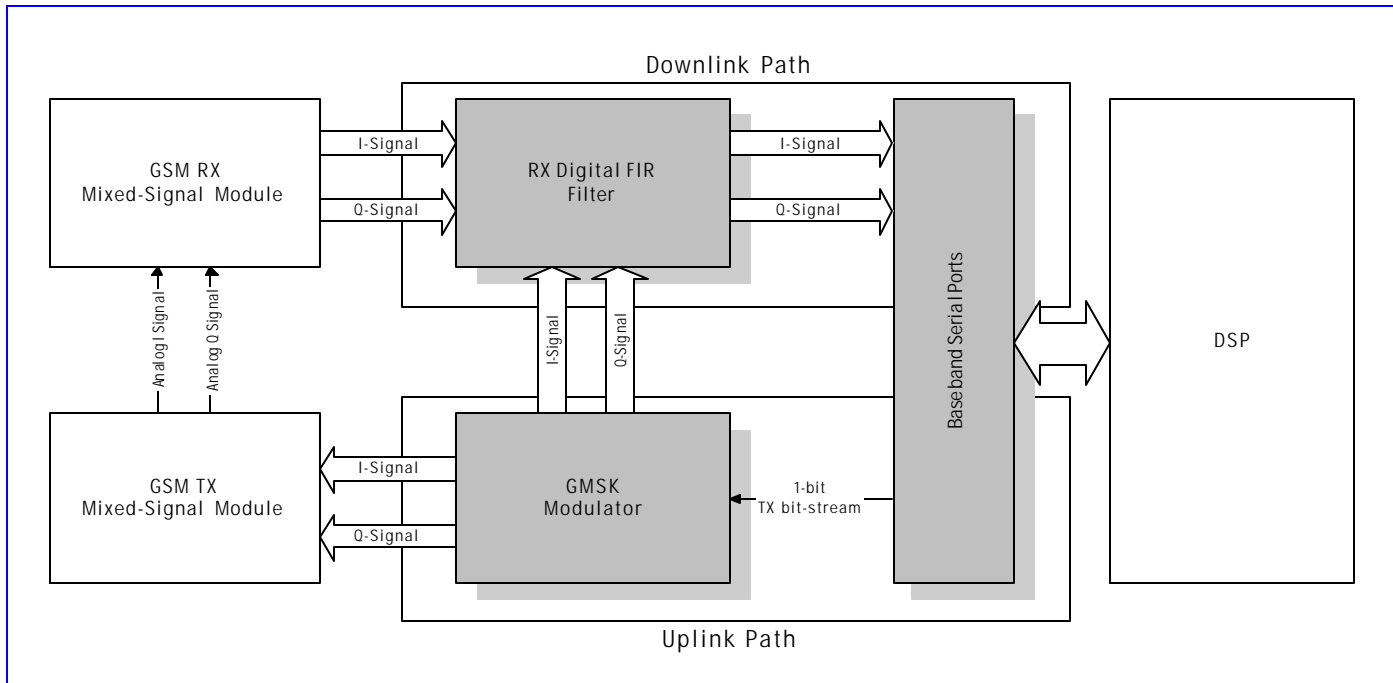

Figure 62 Block Diagram Of Baseband Front End
Baseband Front End is a modem interface between TX/RX mixed-signal modules and digital signal processor (DSP). We can divide this block into two parts (see **Figure 62**). The first is the uplink (transmitting) path, which converts bit-stream from DSP into digital in-phase (I) and quadrature (Q) signals for TX mixed-signal module. The second part is the downlink (receiving) path, which receives digital in-phase (I) and quadrature (Q) signals from RX mixed-signal module, performs FIR filtering and then sends results to DSP. **Figure 62** illustrates interconnection around Baseband Front End. In the figure the shadowed blocks compose Baseband Front End. The uplink path is mainly composed of GMSK Modulator and uplink parts of Baseband Serial Ports, and the downlink path is mainly composed of RX digital FIR filter and downlink parts of Baseband Serial Ports. Baseband Serial Ports is a serial interface used to communicate with DSP. In addition, there is a set of control registers in Baseband Front End that is intended for control of TX/RX mixed-signal modules, inclusive of calibration of DC offset and gain mismatch of downlink analog-to-digital (A/D) converters as well as uplink digital-to-analog (D/A) converters in TX/RX mixed-signal modules. The timing of bit streaming through Baseband Front End is completely under control of TDMA timer. Usually only either of uplink and downlink paths is active at one moment. However, both of the uplink and downlink paths will be active simultaneously when Baseband Front End is in loopback mode.